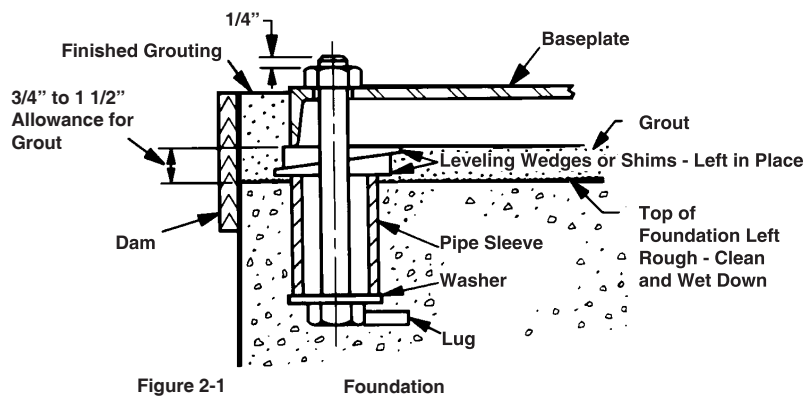

Figure 2-1
3. Support the baseplate on metal shims or wedges having a small taper. (Refer to Figure 2-1)